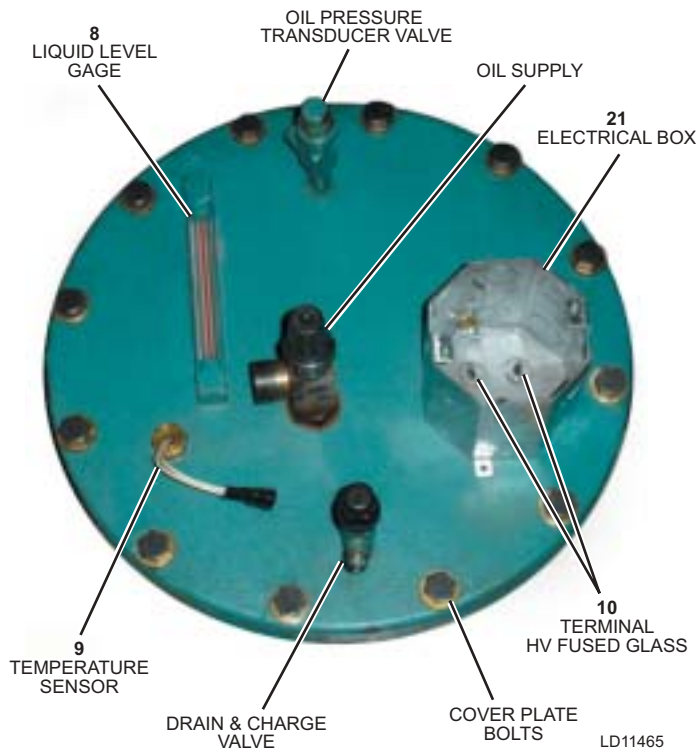

FIG. 70 – OIL PUMP HOUSING COVER PLATE
4. Remove the 5/8" hex head bolts from the oil pump cover (see Fig. 70).
3. Reconnect all electrical leads to fusite connection on sump cover (see FIG. 70). Reconnect oil lines. Reconnect transducers.